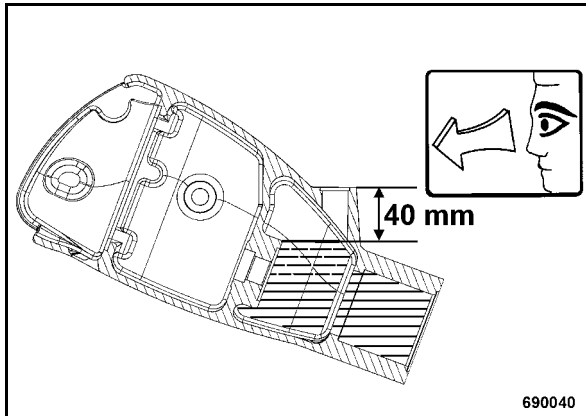

Fig. 70
- Check whether the hydraulic oil level is approx. 40 mm (1.6 in) below the filler opening (Fig. 70) (see also mark on steering rod head), top up hydraulic oil if necessary.